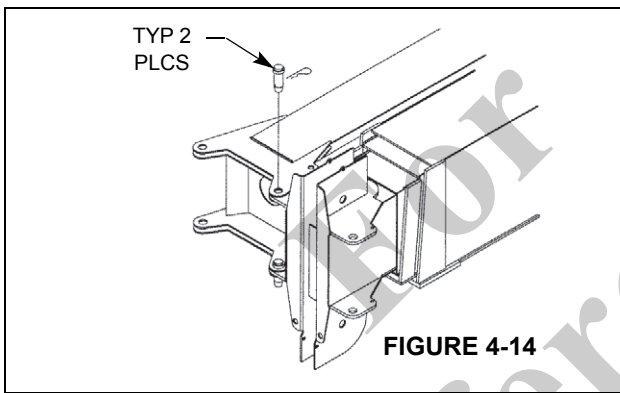

FIGURE 4-14
4. Using an overhead hoist, lift the jib assembly and align and pin the jib to the boom sheave head, Figure 4-14.